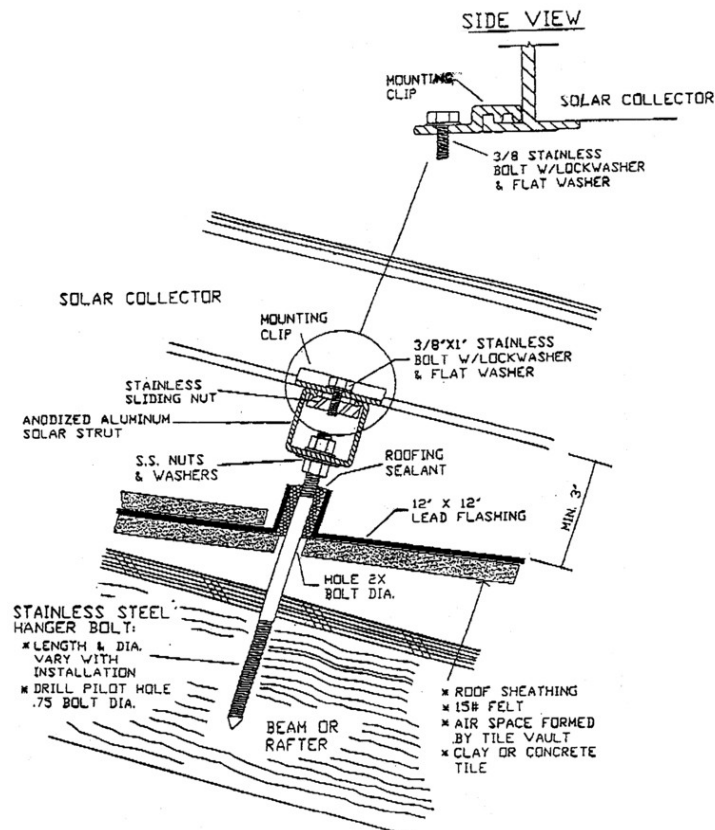

Figure 10
11. The rail is now secured, weather tight to the tile roof. Next, mount the AET solar collector to the rail using the AE rack mounts (AE-RM). See Figure 10.